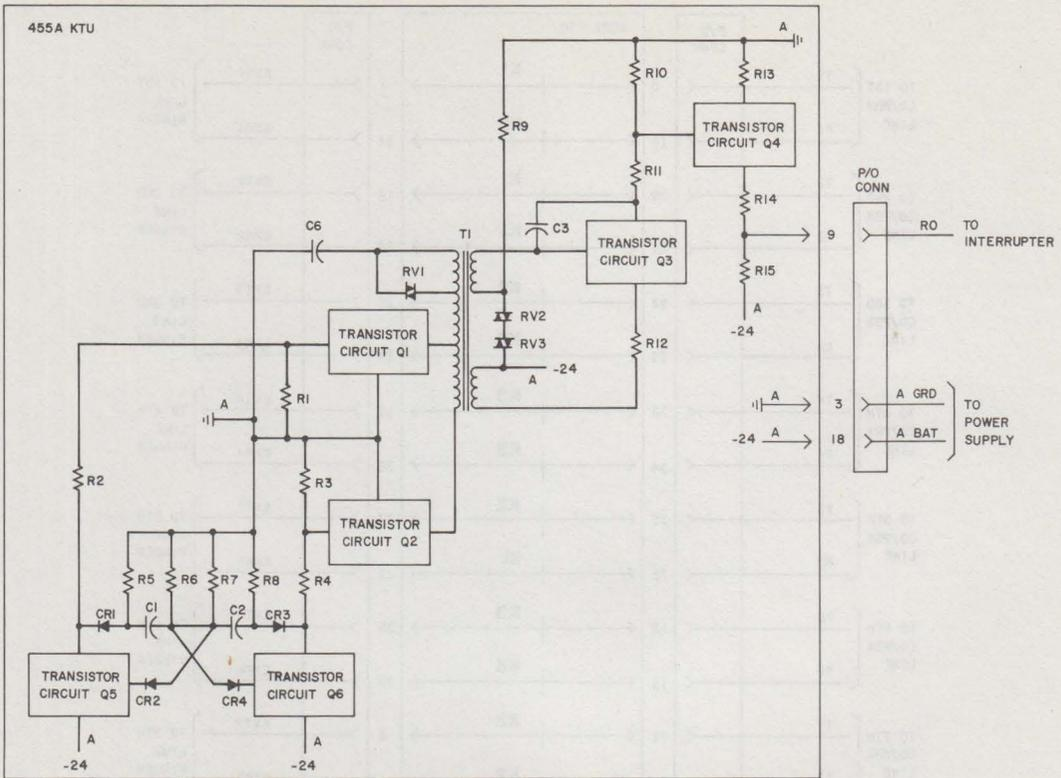

Fig. 18—Condensed Functional Schematic of 455A KTU (Tone-Ringing Signal Generator Circuit)
2.22 The 455A KTU (Fig. 18) is a 4-inch unit that contains the tone ringing generator for CO/PBX signaling.